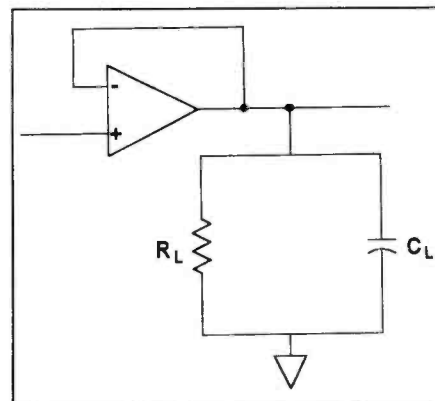

Figure 1. What is the gain of this amplifier?
4. The gain of the amplifier in Figure 1 is: